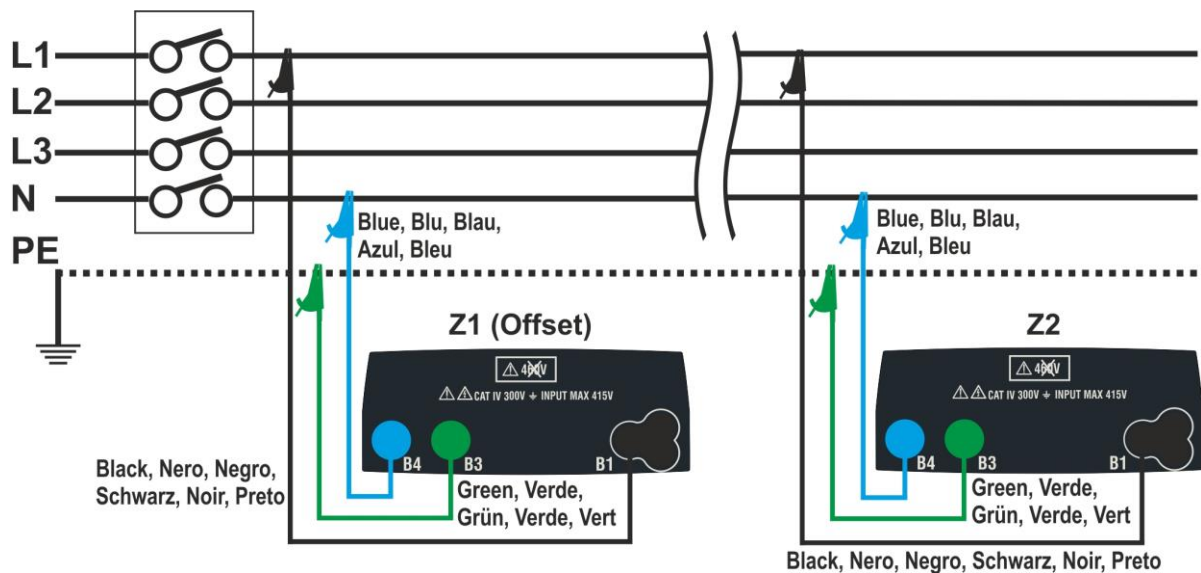
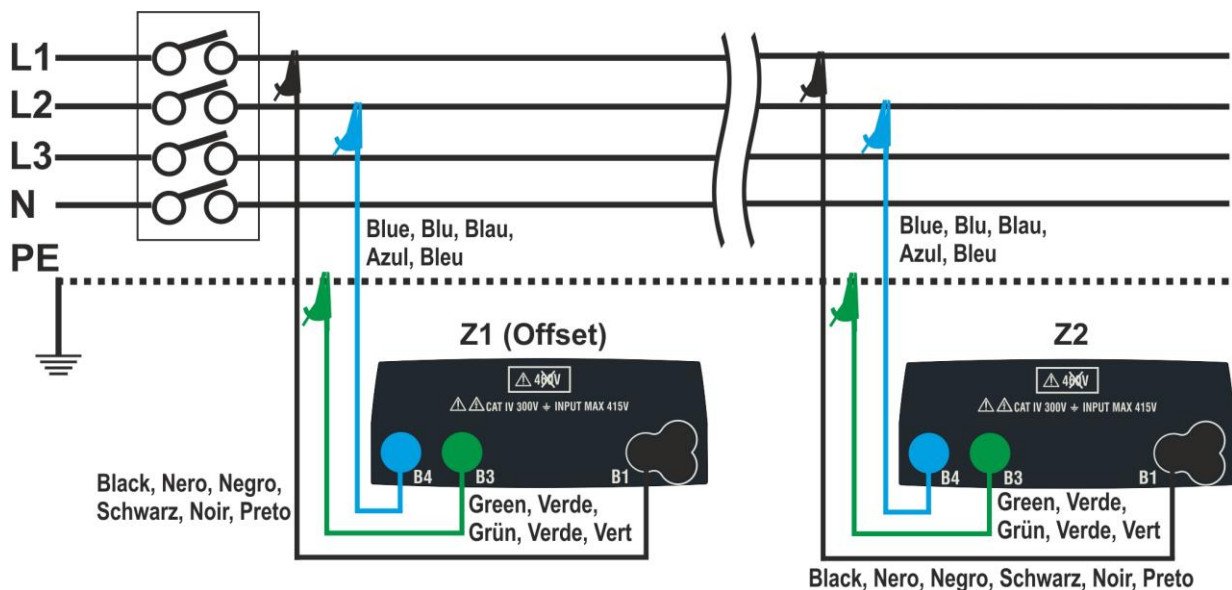

Fig. 33: Connection of the instrument for L-N mode voltage drop measurement
Fig. 34: Connection of the instrument for L-L mode voltage drop measurement
- Connect the instrument to the initial point of the main line being tested (typically downstream to a protection device) according to Fig. 33 or Fig. 34 in order to carry out the first **Z1 (Offset)** impedance measurement. In this case the instrument will measure the impedance upstream of the initial point of the main line being tested taking it as start reference. The following screen (referred to L-L measurement) appears on the display
7. Connect the instrument to the final point of the main line being tested according to Fig. 33 or Fig. 34 in order to measure the **Z2** impedance at the end of line. Note the previously measured Z1 (Offset) value displayed